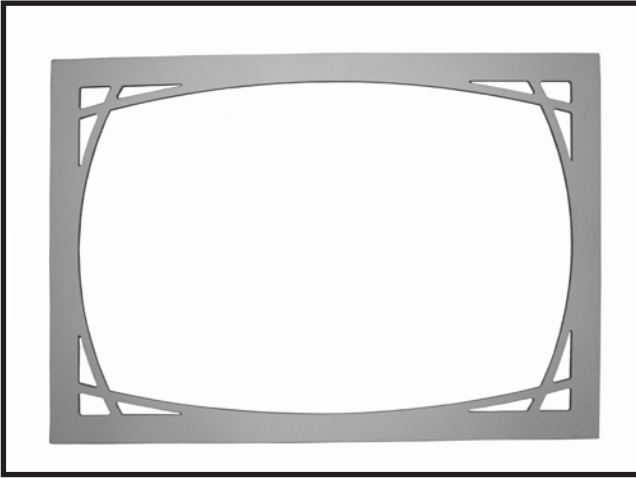
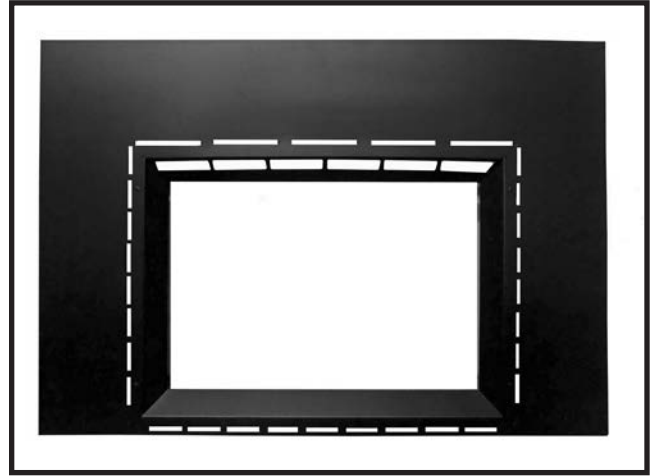

Figure 100: Decorative front.
Figure 101: Backing plate.
4. With the decorative front and backing plate (Figure 100 and Figure 101) removed, press the button marked “PRG” on the caddy and press the program button once (Figure 96). The module will beep 3 times indicating that it is ready to synchronize with the remote handset.
3. The receiver must learn the handset code: Remove the decorative front followed by the backing plate (Figure 100 and Figure 101). Locate the module caddy on the left-hand side of the fireplace. The reset button is located here (Figure 99).